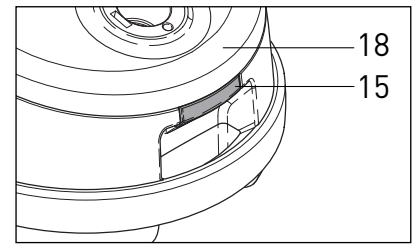
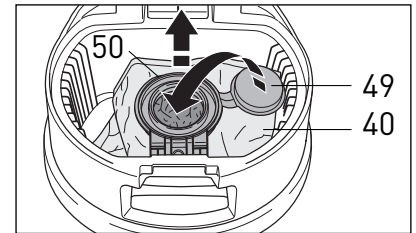

Figure 22
Figure 23
Changing the Filter Bag - Figures 22, 23, 24, 25 & 26
To change the filter bag (40), switch off the power and unplug the vacuum. Lift the cover release catch (#15, figure 22) and raise the filter bag cover (18). Seal the filter bag with the sealing cap (49). Lift the filter bag out of the holder by tilting the green collar (50) up and pulling it out of the holder as shown in figure 23.